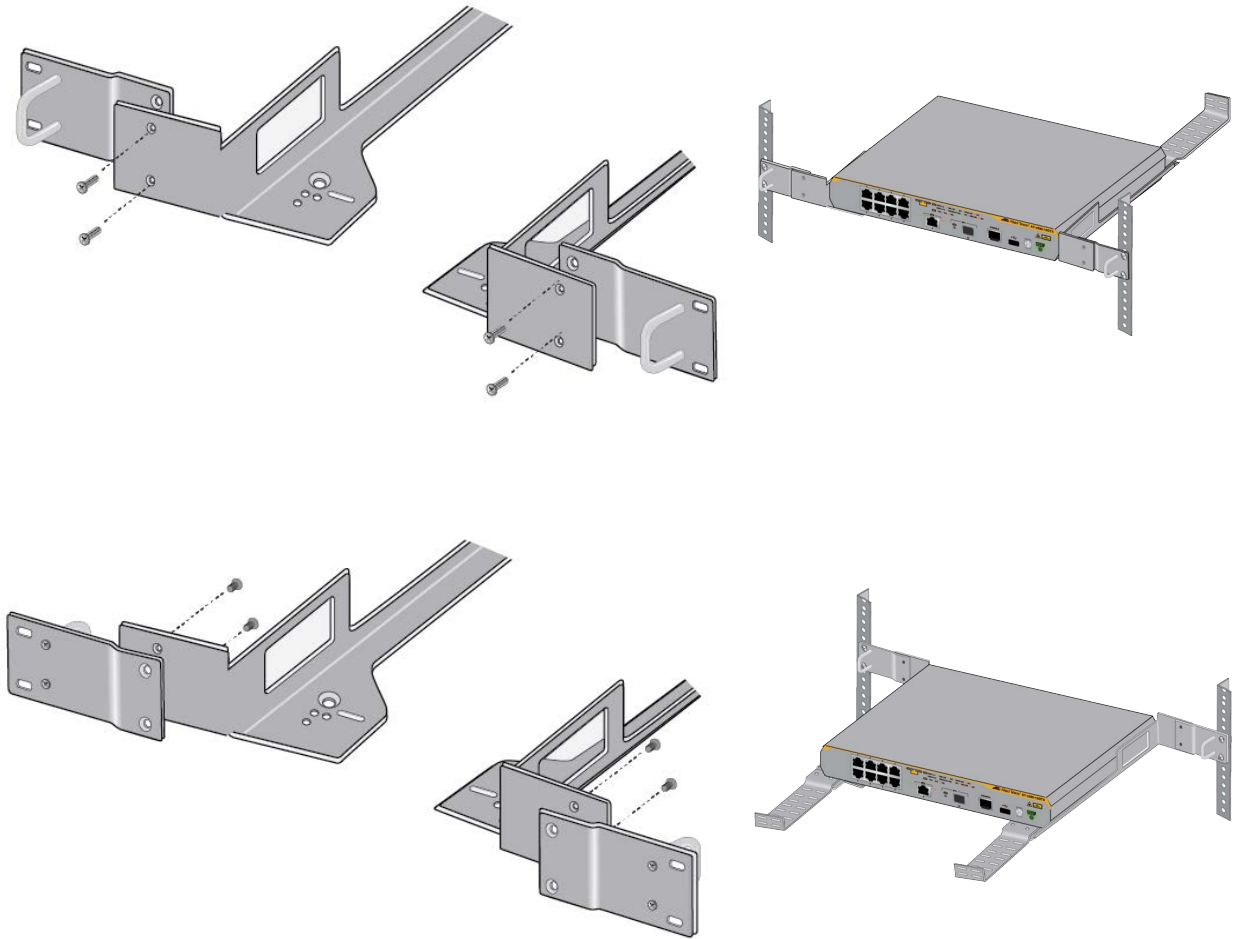

Figure 31. Attaching the Short RKMT-J05 Brackets to the Long Brackets
4. Attach the short brackets to the long brackets using the supplied M4x6mm counter sunk screws. Refer to Figure 31.